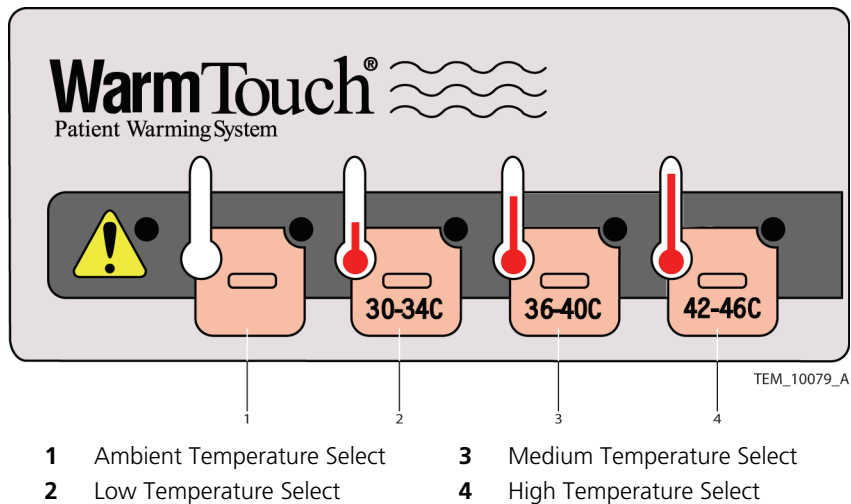

Figure 12. Temperature Selection
8. Select the Ambient temperature setting (Figure 12, item 1).
10. Select the Low (30-34C) temperature setting (Figure 12, item 2).
12. Select the Medium (36-40C) temperature setting (Figure 12, item 3).
14. Select the High (42-46C) temperature setting (Figure 12, item 4).